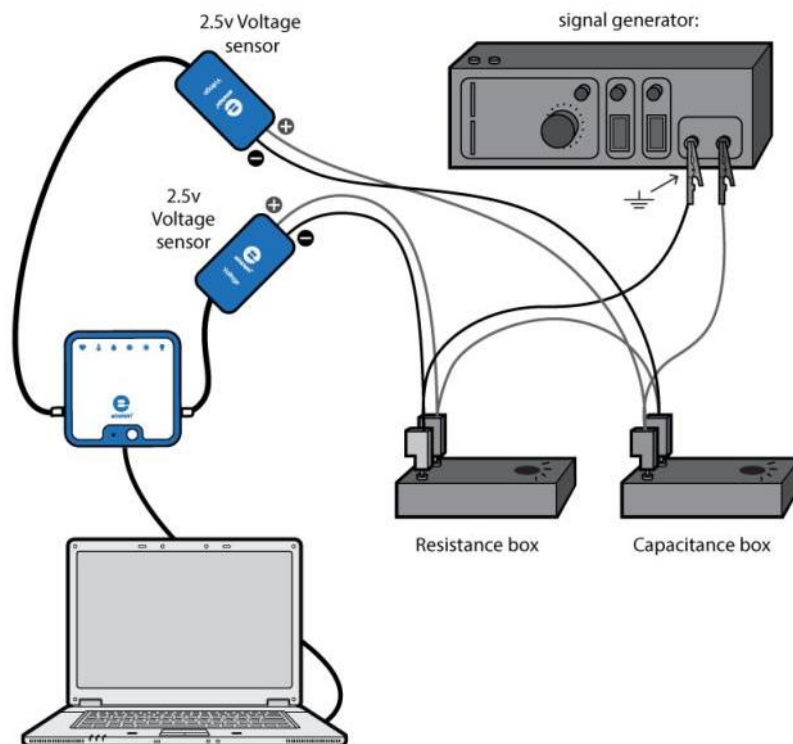

Figure 1
3. Assemble the electric circuit as shown by Figures 1 and 2.